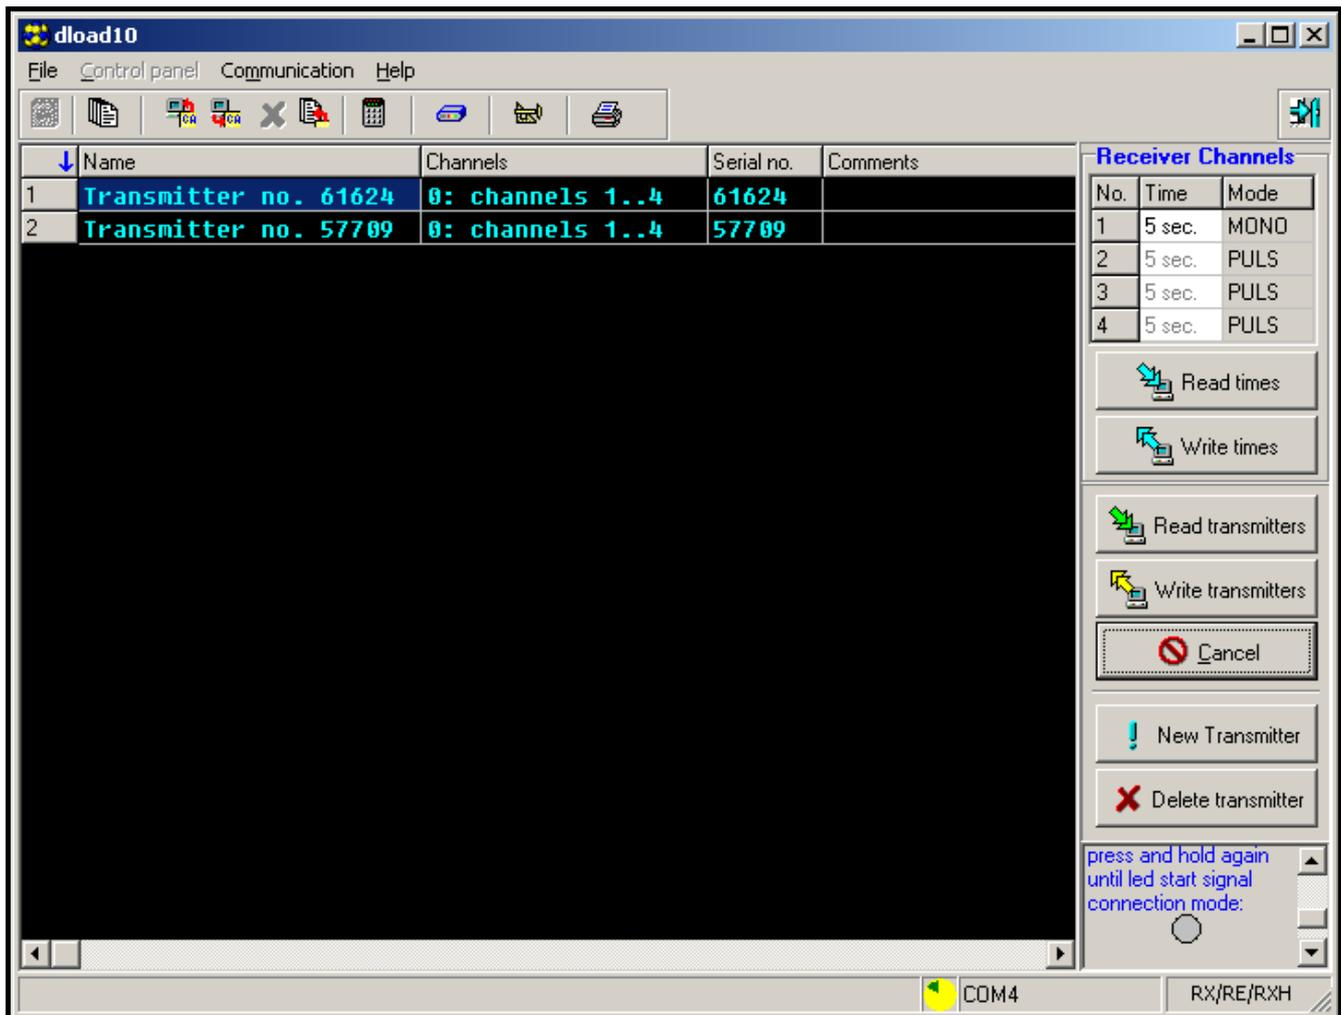

Fig. 2. Management window for RXH-4K in the DLOAD10 program.
5. In the DLOAD10 program, select "New device" in the "File" menu, and then the "Keyfobs receiver RX/RE/RXH". The remote controller sets management window opens (see: Fig. 2). Click on the "Read transmitters" button to open the list of remote keyfobs already entered into the receiver.